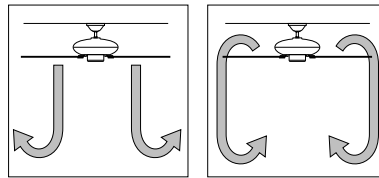

Figure 8b - Air Flow Patterns
3. Ceiling fans work best by blowing air downward (counter-clockwise blade rotation) in warm weather to cool the room with a direct breeze. In winter, having the fan draw air upward (clockwise blade rotation) will distribute the warmer air trapped at the ceiling around the room without causing a draft. Refer to Figure 8b.